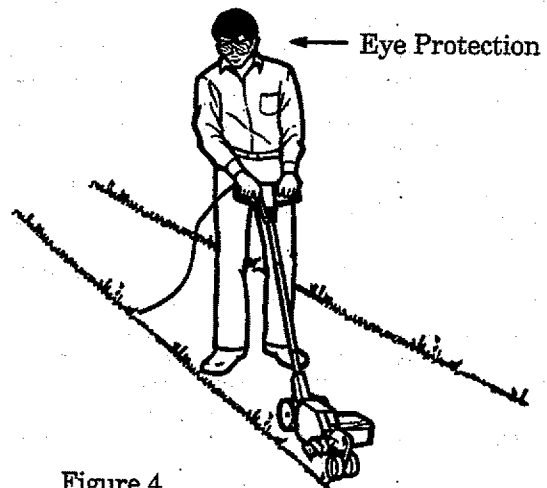

Figure 4
- b. **Always keep the unit in front of your body.** Hold handle firmly with both hands. Figure 4.